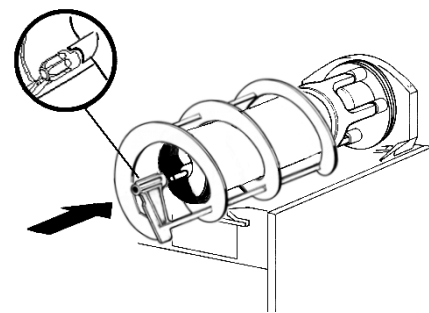

figure 13
- 6 Install the outer spiral. Slide it over the evaporator until its front notch engages with the exposed end of the auger shaft (see figure 13).